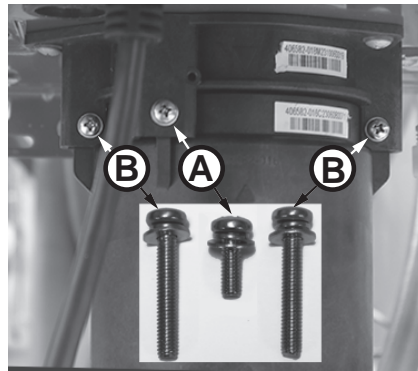

Figure 207 - Identify cartridge screws
- 6** Locate the three (3) screws securing the X3®/Bypass cartridge as shown in Figure 207. Remove the **(A)** M4-12mm screw and the two **(B)** M4-25mm screws from cartridge. Place screws aside in a safe place for reinstallation.